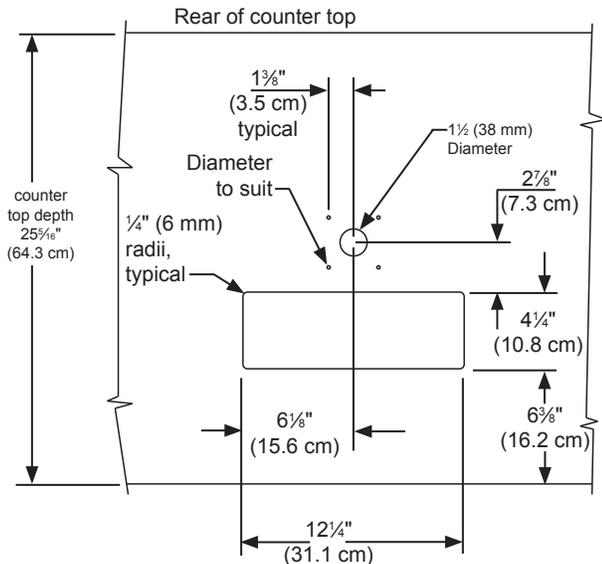

Figure 29
The cutout dimensions shown in Figure 29 are based on a 25⁵/₁₆" (64.3 cm) deep counter top. Your counter top may be different than this and require other front to back dimensioning. Refer to the product dimensions on page 8 when determining the required dimensions.
4. If you are installing your keg refrigerator under a counter you will need to drill 5 holes in the counter top to mount the tower. The first hole is a 1¹/₂" diameter hole located at the center of the tower for the beer line, locate approximately 13¹/₂" (34.3 cm) from the front edge of the counter top (based on a counter top depth of 25⁵/₁₆"). Next drill the 4 tower mounting holes per the dimensions in Figure 29. The hole diameter is dependent on the counter top material and if screw anchors are required. The screws supplied are in the literature pack and are a #10 x 1" type AB stainless steel screw. Mark and cut the rectangular cutout for the drain sump. After the holes are drilled and the keg refrigerator is in place under the counter top feed the beer line through the tower gasket, the 1¹/₂" hole in the counter top and the hole in the top of the keg refrigerator. Mount the tower to the counter top with the 4 screws provided. Place the counter top drain sump, from the literature pack, in the rectangular hole with the radius cutout to the rear around the tower and place the grate in the sump.